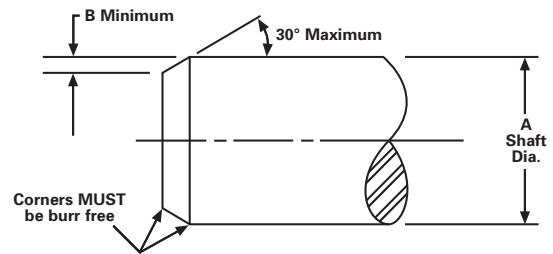

Figure 7: Shaft Geometry
- Both the shaft and bore should include an edge relief (preferably an edge chamfer), as shown in *Figures 7 and 8*. See *Tables 8 and 9* for specific values.